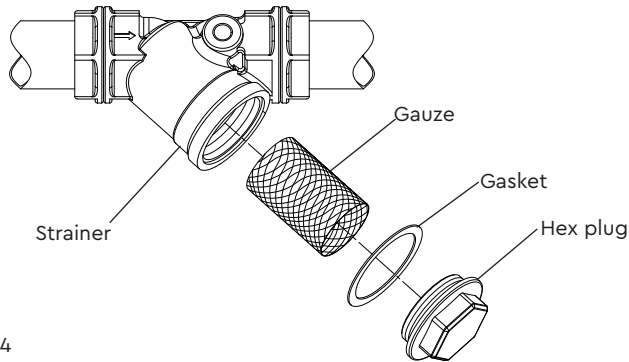

Fig. 14
The pump must be primed (filled with liquid) before starting. Turn on liquid supply, prime and vent the pump by unscrewing the priming plug (Fig. 14) slowly until all air escapes and liquid emerges. Re-tighten plug.
- 6.13 **Inlet strainer:** Incorporated in the strainer is a removable gauze filter which may require periodic cleaning. The frequency of this operation is dependent upon installation conditions. The strainer is located in the inlet pipework to the pump (Fig. 14). The gauze filter is removed as follows:-
- Remove screwed hexagonal plug from strainer body taking care to collect or absorb any residual water (Fig. 14).